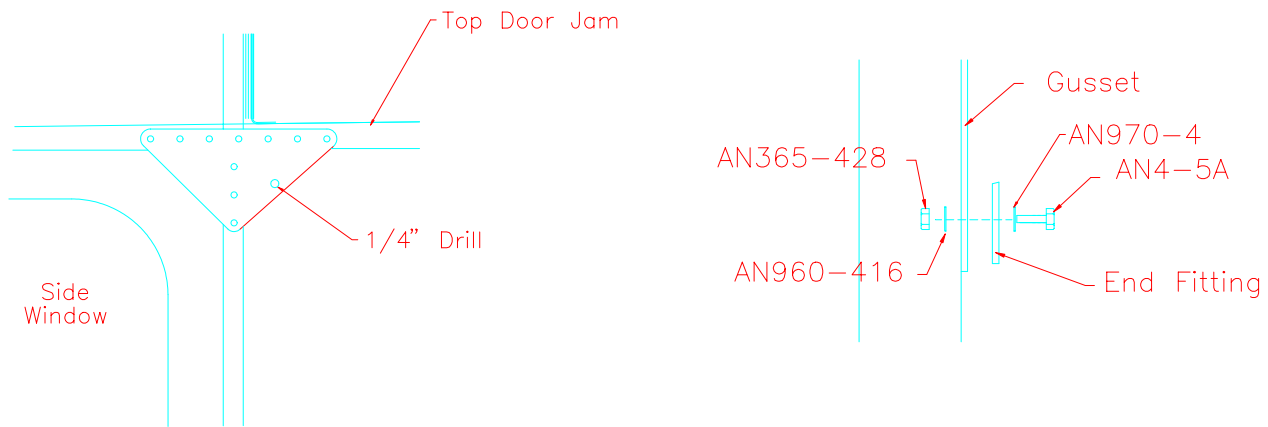

Figure 22.4.4
- 6) Secure the end fitting for segment #1 (shoulder strap) to the gusset at the top rear of the pilot's door. Use a AN4-5A bolt. See Figure 22.4.4.